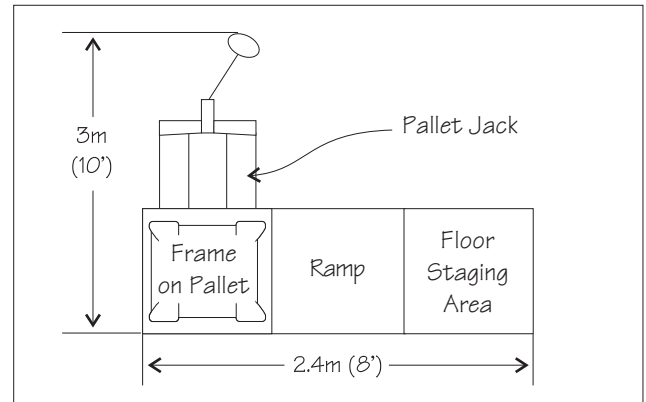

Fig 3-1 Staging Area
2. **Staging Area** - A smooth, level floor surface is required to position the frame pallet, to remove the packaging materials, and to install the ramp. It must provide adequate space for *two people* to carefully roll the frame down the ramp and onto the floor. See Figure 3-1 below for staging area dimensions.